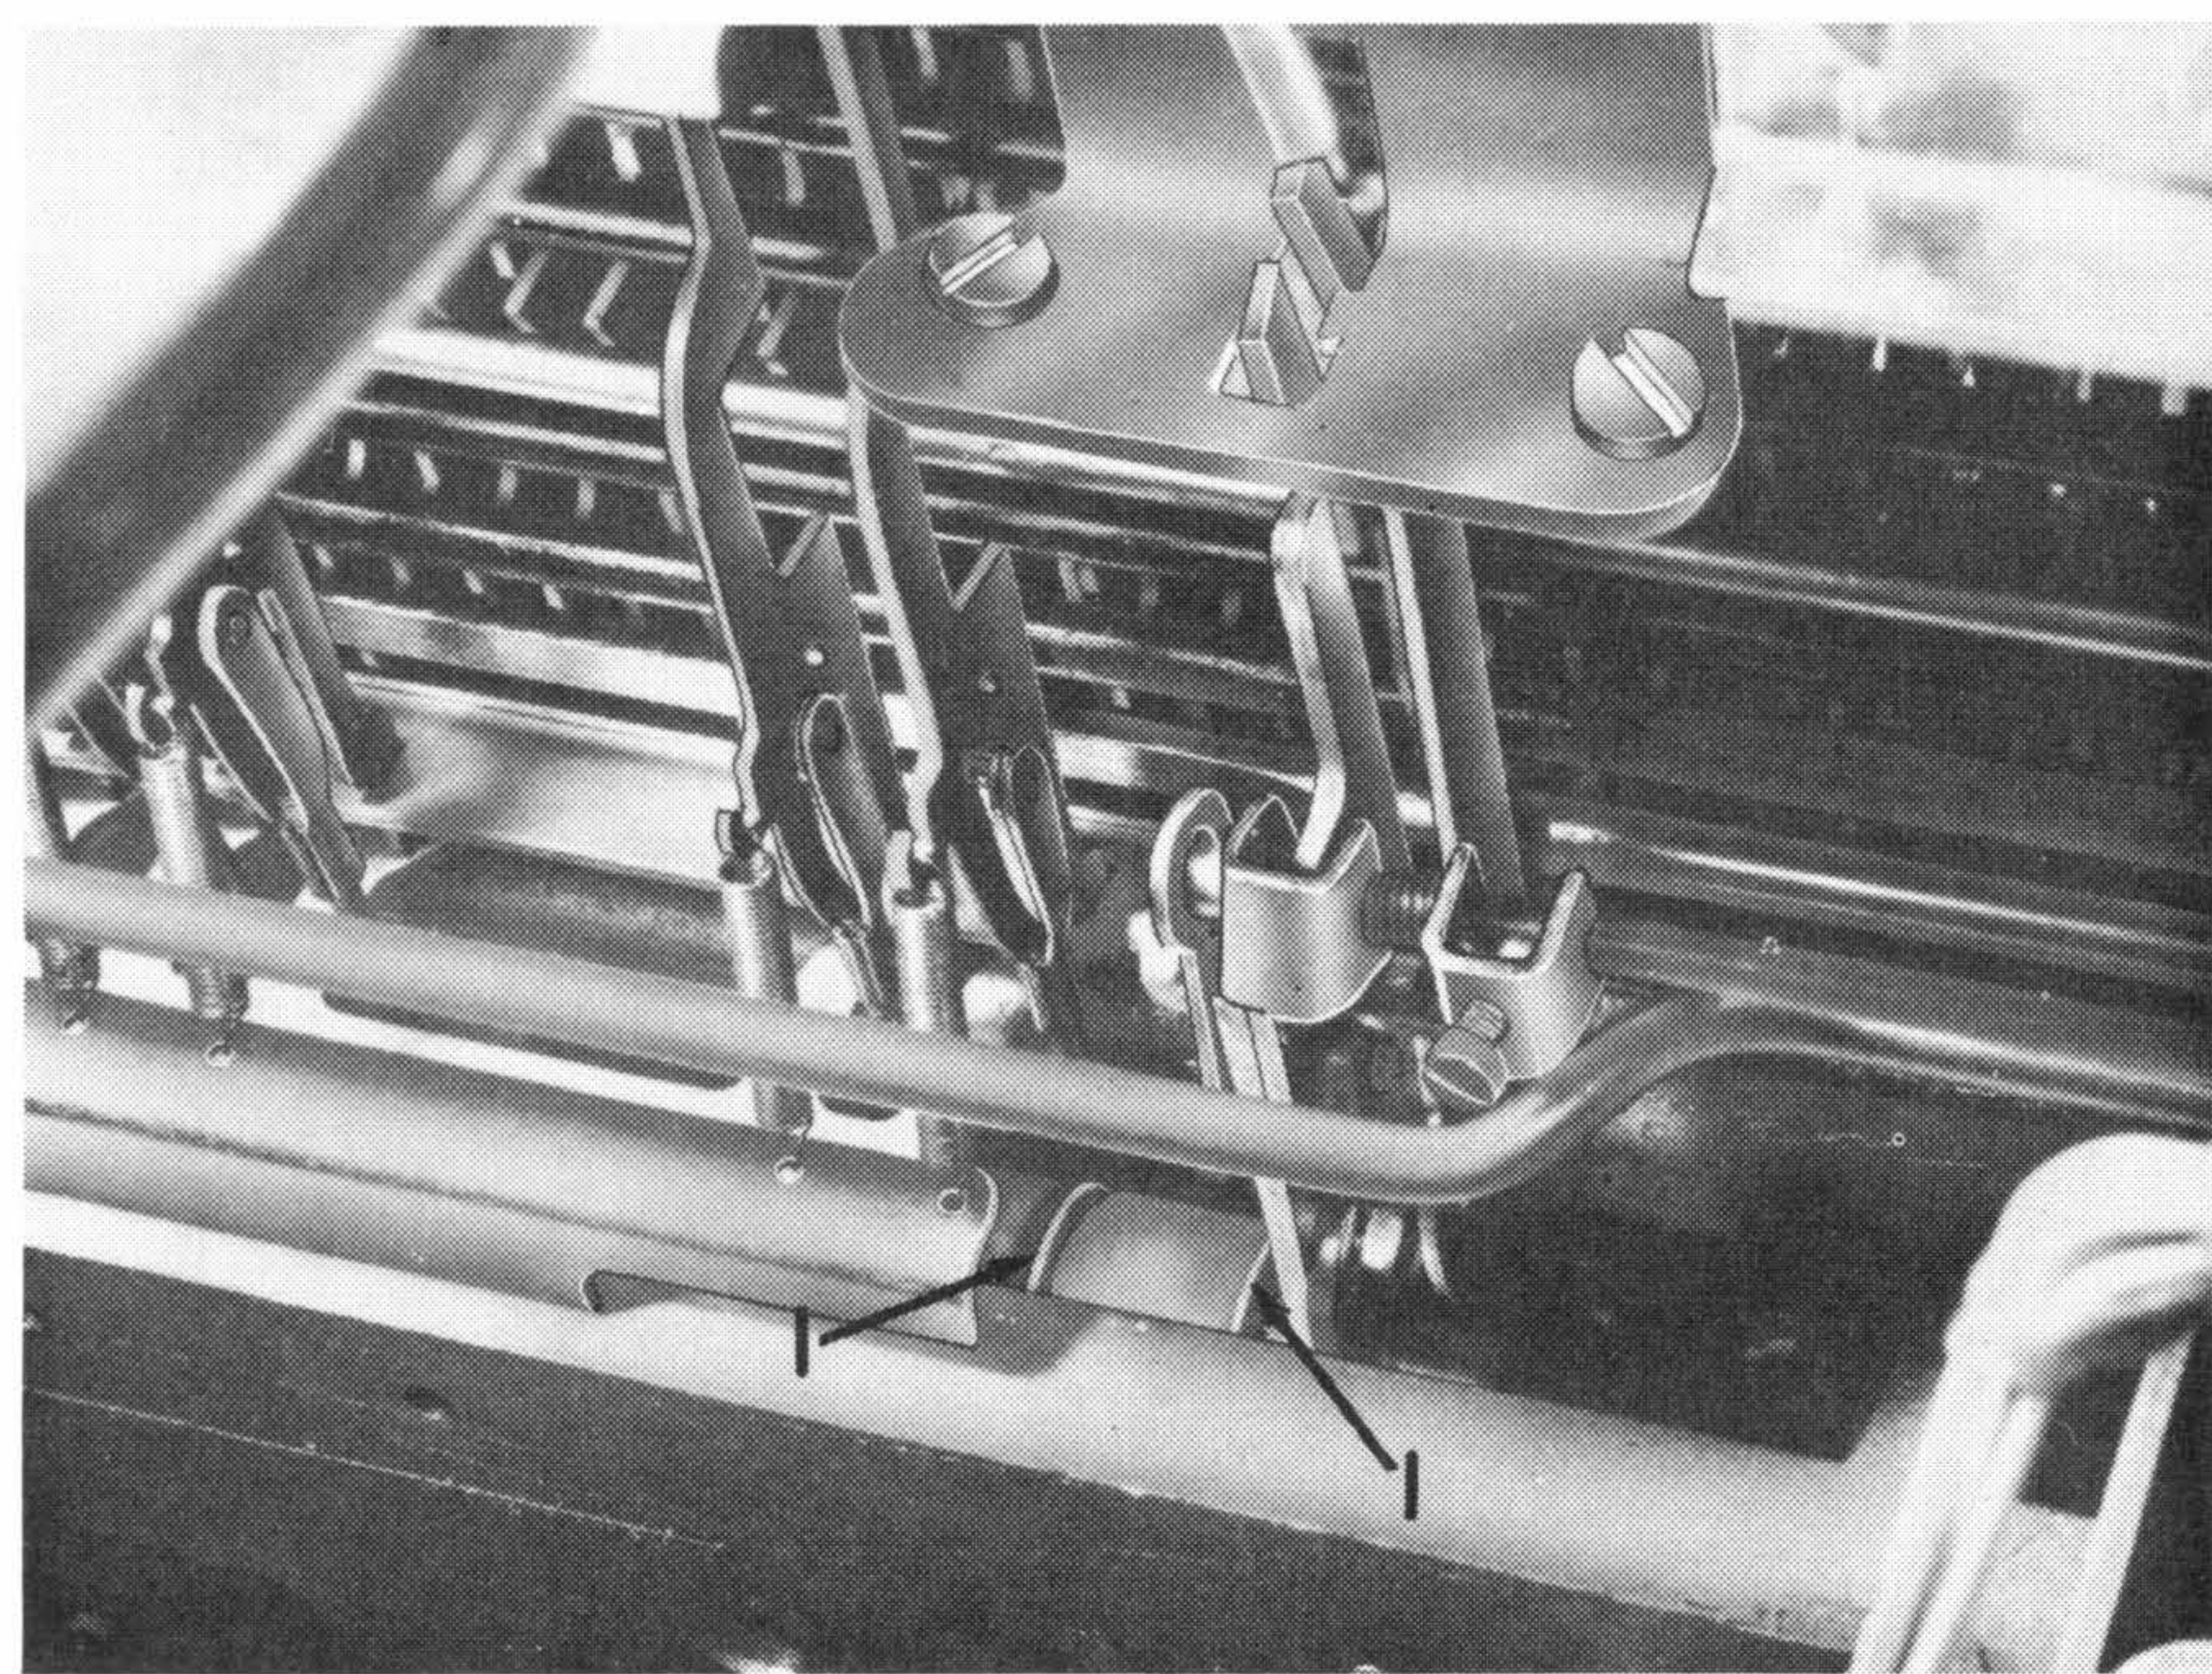

Figure 35. Selector Bail Removal
4. Remove all the C-clips from the positive bail shaft (#1, Figure 35).